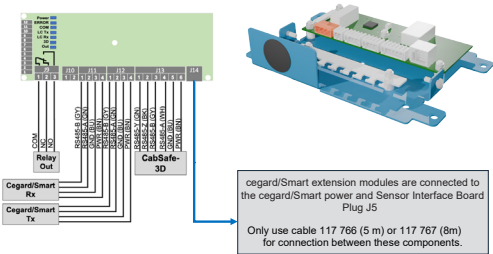

Figure 13: cegard/Smart sensor interface PCB / extension module
The cegard/Smart system is configured using twelve (12) DIP switches. The DIP switches are located on the sensor connection PCB as shown in Figure 13 below. For light curtain only (2D) operation, refer to Chapter 6.5.